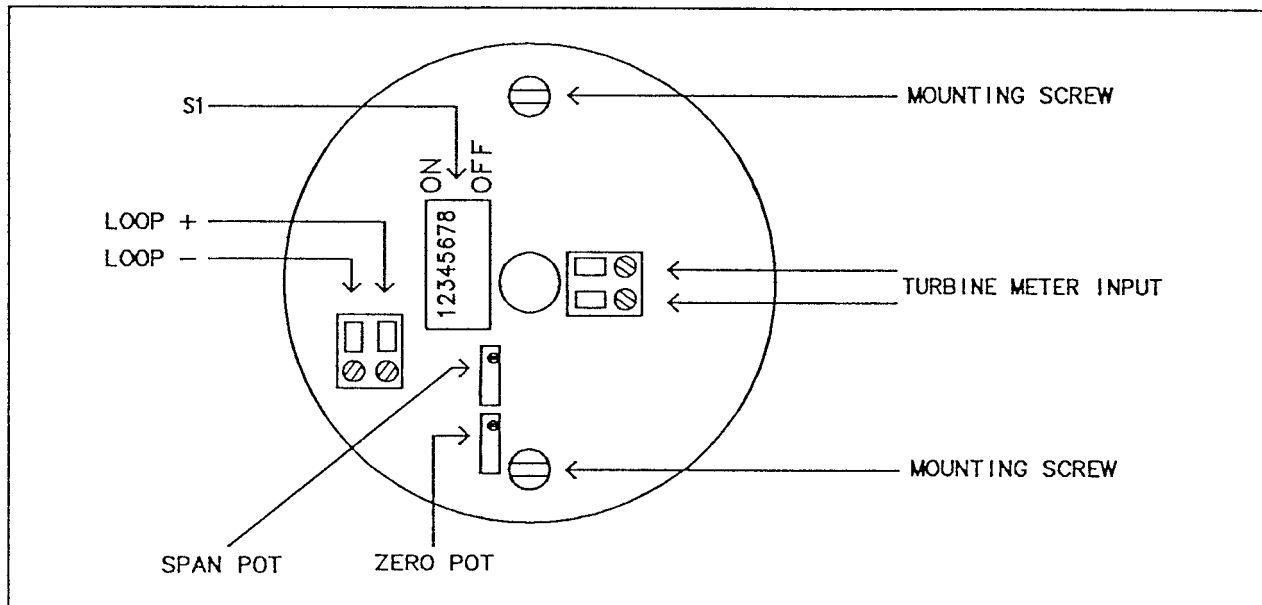
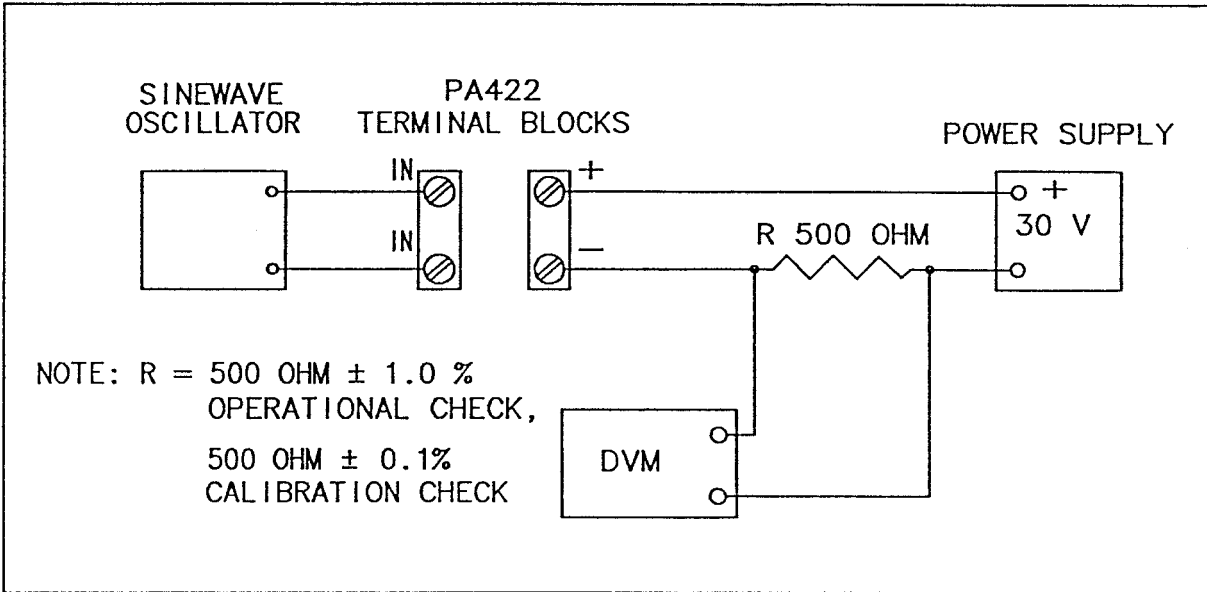

Figure 9. PA422 printed wiring board.
Figure 10. PA422 Test Setup.
1. Connect the PA422 and the test equipment as shown in Figure 10.
- (1) Connect the PA422 and the test equipment as shown in Figure 10.
- (2) Set the oscillator amplitude to 0.
- (3) The PA422 output signal as measured on the DVM should be 2.000 ± 0.0006 Vdc. Adjust the zero pot if required for this reading. See Figure 9 for zero pot location.
- (4) Set the oscillator frequency to the span frequency as determined in step 2 of the OPERATIONAL CHECK.
- (5) Set the oscillator amplitude to 200 mVdc.
- (6) The PA422 output signal as measured on the DVM should be 10.000 ± 0.03 Vdc. Adjust the span pot if required for this reading. See Figure 9 for span pot location. Readjustment of the zero pot setting should not be required, as span adjustment does not affect the zero setting. However, zero adjustment does affect the span setting; therefore span must be the last adjustment made.